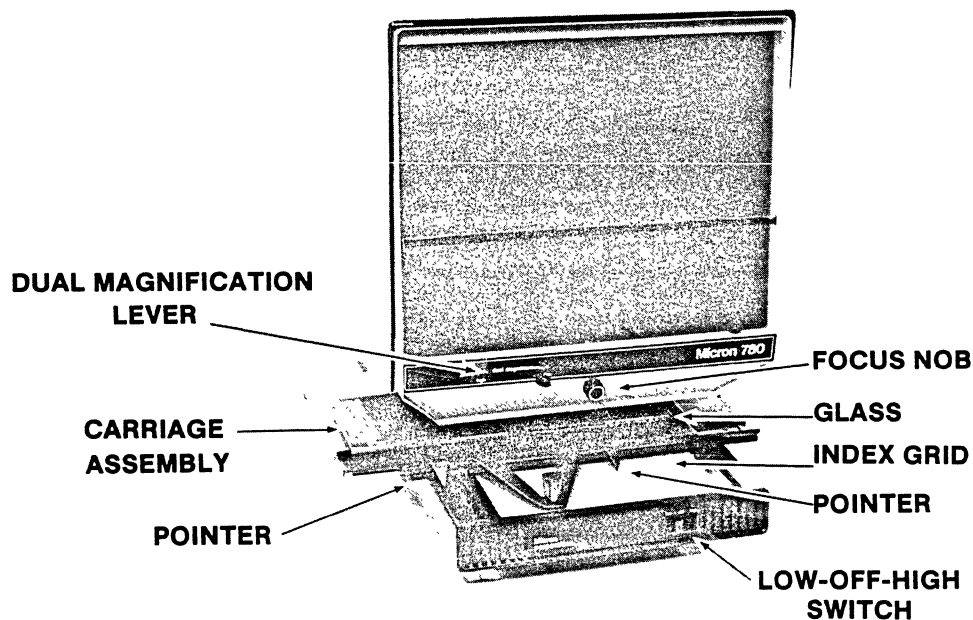

Figure C-2. Microfiche Desk Reader
To load the Micron 780 Desk Reader or a similar desk reader, perform the following procedure (figure C-2).
1. Position the area that you wish to magnify in the center of the screen using the carriage assembly (see figure C-2 for the location of the DUAL MAGNIFICATION lever).
- Be sure the image on the screen is focused sharply (see figure C-2 for the location of the focus nob).